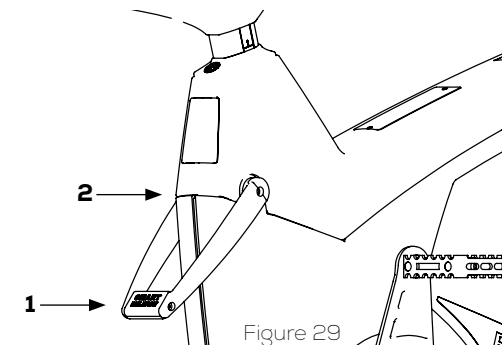

Figure 29
- 1) Use a 4 mm Allen key to completely loosen screw (1). See figure 29.
- 2) Then, loosen screw (2) with a 5 mm Allen key and remove the old handle.
- 3) Place the new handle in position and tighten screw (2) first, then screw (1).